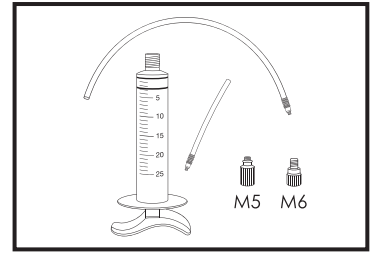

Fig 2
- The Basic Bleed Kit includes an oil injector, PU tube 30cm, PU tube 10cm, M5 and M6 bleed screws. **(Fig 2)** Note: only TRP Slate T4 is compatible with M5 bleed screw on reservoir bleed port, other TRP models please use M6 bleed screw.